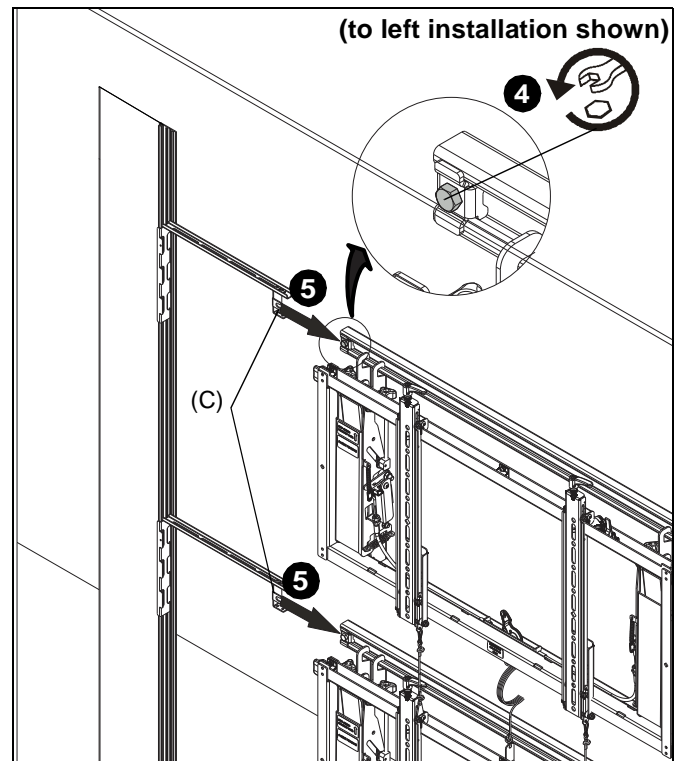

Figure 3
4. Loosen stop bolt screws on ConnexSys™ mounting brackets. (See Figure 3)
5. Slide adapter brackets (C) underneath loosened stop bolt screws. (See Figure 3)